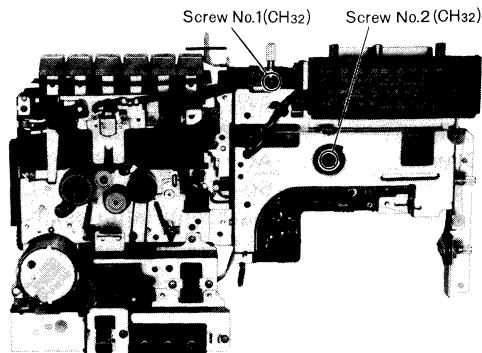

Fig. 5
2. Remove two(2) dial drum and PC Board screws, nos. 1& 2, as illustrated in fig.5.